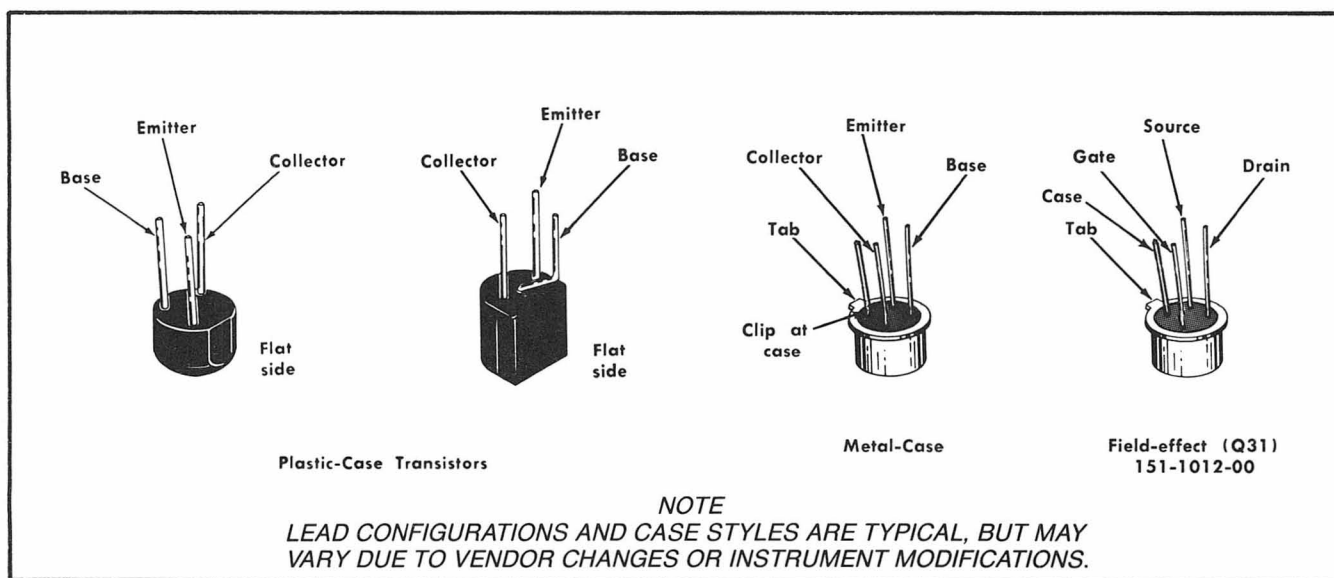

Fig. 4-1. Lead configuration for board-mounted transistors.
**Transistor Replacement.** Cut the leads of a replacement transistor to the same length as the transistor removed and bend the leads as necessary. The dead configuration of the transistors used in the Type S-2 are shown in Fig. 4-1. Two transistors, Q13 and Q17, have soldered leads and are soldered to the circuit board. The field-effect transistor mounting has an arrow at the top position.